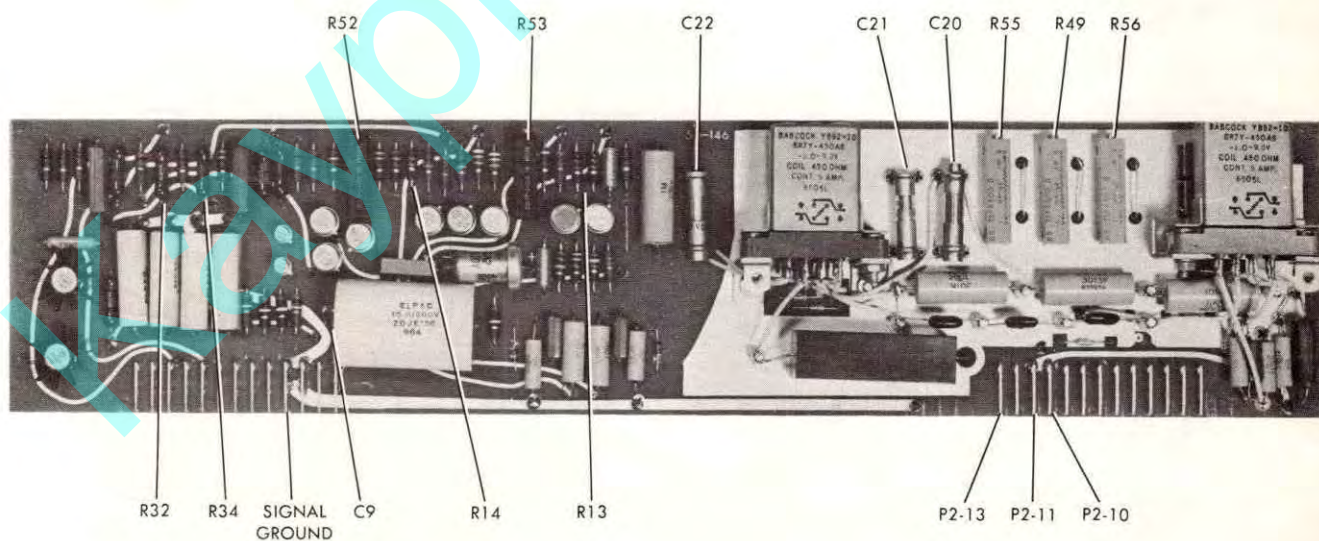

Figure 3-10. AC Attenuator and Converter Adjustment and Test Points
9. Short P2-13 to P2-10 (figure 3-10) with a clip lead.
11. Connect a 10K resistor between output capacitor (lead of C9 as shown in figure 3-10) and signal ground.
12. Adjust DC level potentiometer R53 (figure 3-10) until readout displays 6.0000V.
13. Connect red and black input clips to lead of R32 and signal ground (figure 3-10).
14. Adjust DC balance potentiometer R52 (figure 3-10) until readout displays approximately 5.0000V ($\pm 0.01V$).
15. Connect red and black input clips to lead of R34 and signal ground (figure 3-10).
19. If required values set forth in steps 11 through 18 cannot be attained, connect red and black input clips to lead of R14 and ground (figure 3-10) and also to lead of R13 Signal ground (figure 3-10). Each measurement should display -2.1000V ($\pm 1.5V$) in readout.
24. With instrument remaining in 10-volt range, AC, apply 9.0000V, 50 CPS and adjust feedback gain potentiometer, R36 (figure 3-10) until readout displays 9.0000V.
25. Apply 9.0000V, 10KC and adjust 10V range trimmer capacitor, C22 (figure 3-10) until readout displays 9.0000V.
30. Apply 90.000V, 50 CPS and adjust feedback gain potentiometer, R49 (figure 3-10) until readout displays 90.000V.
31. Apply 90.000V, 10KC and adjust 100V range trimmer capacitor, C21 (figure 3-10) until readout displays 90.000V.
36. Apply 900.00V, 50 CPS and adjust feedback gain potentiometer, R55 (figure 3-10) until readout displays 900.00V.
37. Apply 900.00V, 10 KC and adjust 1000V range trimmer capacitor, C20 (figure 3-10) until readout displays 900.00V.